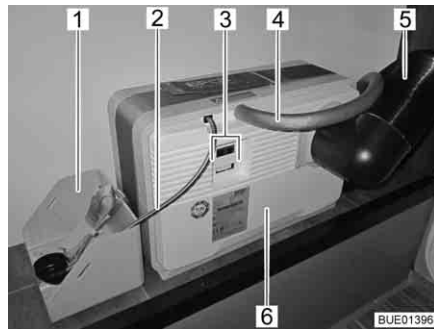
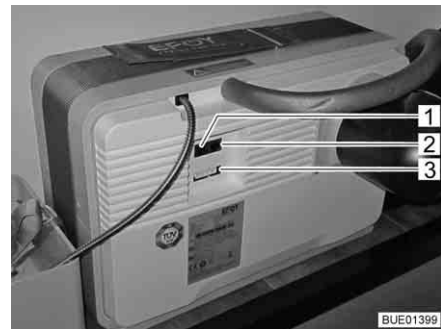

Fig. 163 Fuel cell with tank cartridge
Fig. 164 Connector panel of the fuel cell
The fuel cell consists of several components that are installed in the rear storage space (Fig. 163) and of an operating unit (Fig. 165) in the living area. The following components are on the fuel cell (Fig. 163,6):
- The connector for the air discharge hose (Fig. 163,4) or the filling hole for the service fluid
- the off-heat tube (Fig. 163,5)
- electrical connections (Fig. 163,3) with data interface (Fig. 164,2), device connection (Fig. 164,3) and connection for the operating panel (Fig. 164,1)
A tank cartridge belongs to the fuel cell (Fig. 163,6). It is connected to the fuel cell via a tank connection (Fig. 163,2).
The tank cartridge is firmly fixed in the tank cartridge holder (Fig. 163,1).